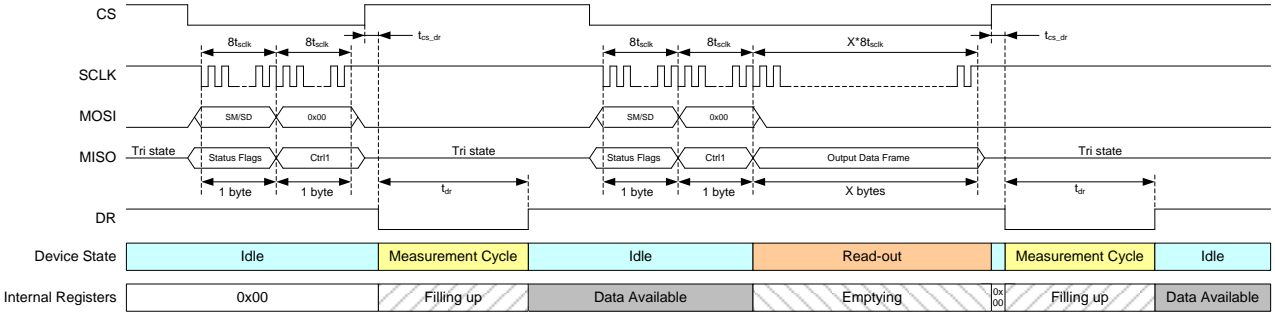

Figure 14 : Combined SM - RO (X value is defined in Figure 6)
- Figure 14 : Combined SM - RO (X value is defined in Figure 6) shows the operation with the combined SM and RO. First one has to upload a SM command to start a measurement. The data is available for read-out when the *DR* pin goes high. Instead of uploading a RO command, a SM command can be uploaded again to combine read-out and the start of the next measurement cycle. If extra clocks are given after upload of the SM command, the data of the internal registers becomes available on the *MISO* pin. Note that the CS pin shall not be set high until the read-out is finished. Once CS pin goes high, the *DR* pin is set low and a new measurement cycle will be started. A time t_{dr} later the *DR* pin goes high to indicate that the data is available.